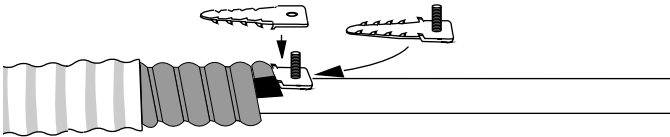

Figure 9
- b. Slide the base plate under the armor. Be careful not to damage the intrabuilding cable (Figure 9).